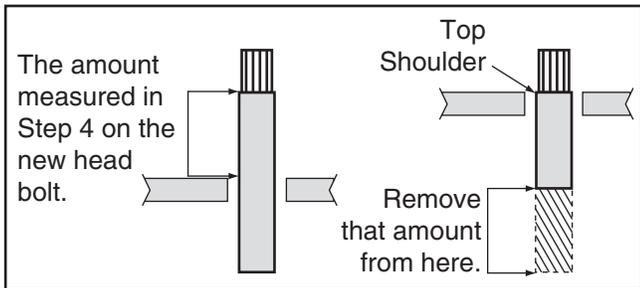

Figure 7. Measuring the amount of the new drawbar head bolt to remove.
5. Remove the amount measured in **Step 4** from the **bottom** of the new bolt head (see **Figure 7**).